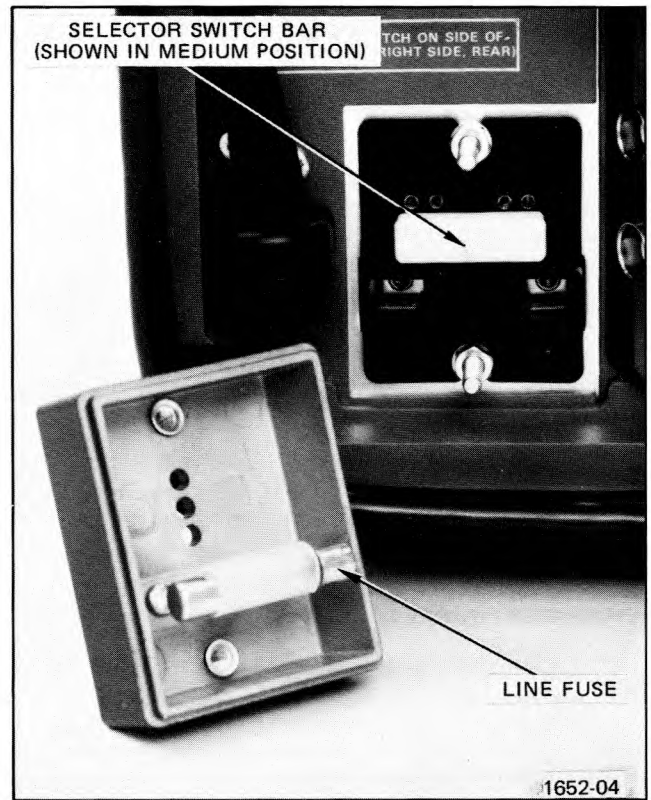

Fig. 2-1. Regulating Range selector and line fuse.
3. Pull out the Range Selector switch bar (see Fig. 2-1). Select a range from Table 2-2 that is centered about the average line voltage. Slide the bar to the desired position and plug it in. Push the cover on and tighten the screws.
- 51 **LINE FUSE HOLDER**—Contains the line fuse and the regulating range selector. See Fig. 2-1 for additional information.
- 52 **REGULATING RANGE SELECTOR**—Shown in Medium regulating range. See Fig. 2-1 for additional information.